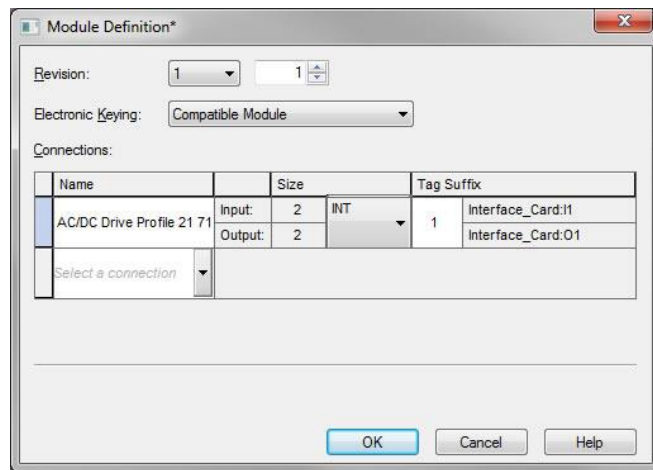

Figure 24: AOP AC/DC Drive Profile Module Definition
- 3) Configure the AC/DC Drive Profile connection. Refer to Figure 24.